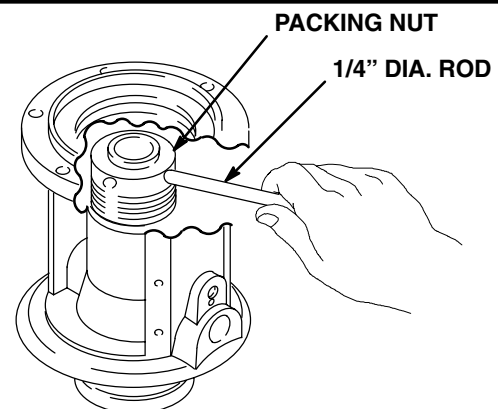

Fig. 14
4. Use a 1/4" diameter rod to tighten the packing nut. First loosen the nut, then tighten snugly, and finally tighten 1/4 turn more. See Fig. 14.